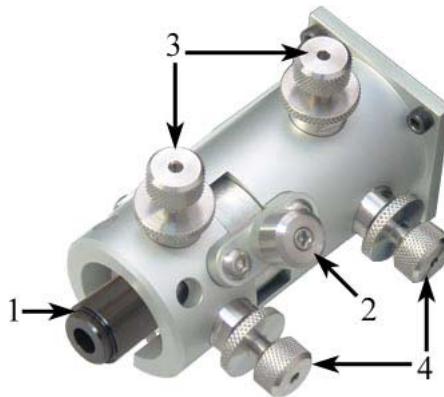

Fig. 8-1. Laser radiation feedthrough
3. Insert the alignment auxiliary tube 1 into the bush and then, not applying excessive effort, and fasten it with the central backing-up screw 2 (Fig. 8-1).